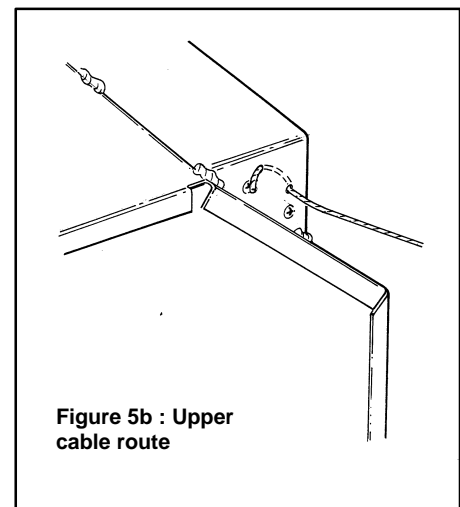

Figure 5b : Upper cable route
- The convection box has two holes on each end of the debris deflector (see figure 5b) Insert one end of each cable (one cable each side) from the back through the lower of the two holes and return the end through the upper of the holes as shown in figure 5c. Give the cables a pull so that they grip against the debris deflector flanges.